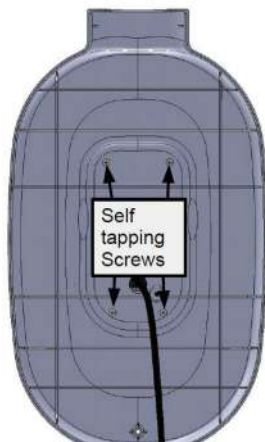
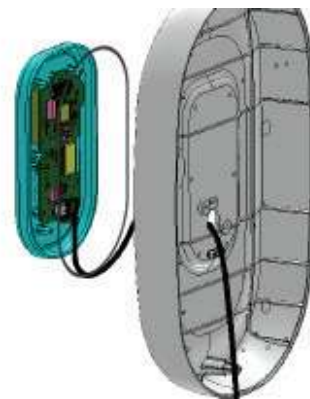

Figure 139
Figure 140
- Remove the console assembly from the base unit front cover by removing 4 no's of KA30x8 self tapping screws using star screw driver as shown in Figure 140 and Figure 139 .
- Route the cable through the slot provided on the base unit front cover as shown in Figure 139 and fix the console assembly to the front cover with 4 no's of KA30x8 self tapping screws using phillips screw driver as shown in Figure 140 .